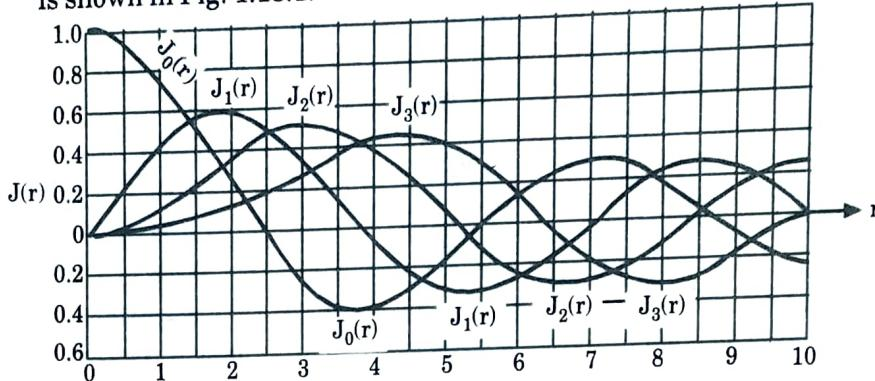

Fig. 1.18.1.
10. In the core region, the solutions are Bessel functions denoted by J_l . A graph of these gradually damped oscillatory functions (with respect to r) is shown in Fig. 1.18.1.